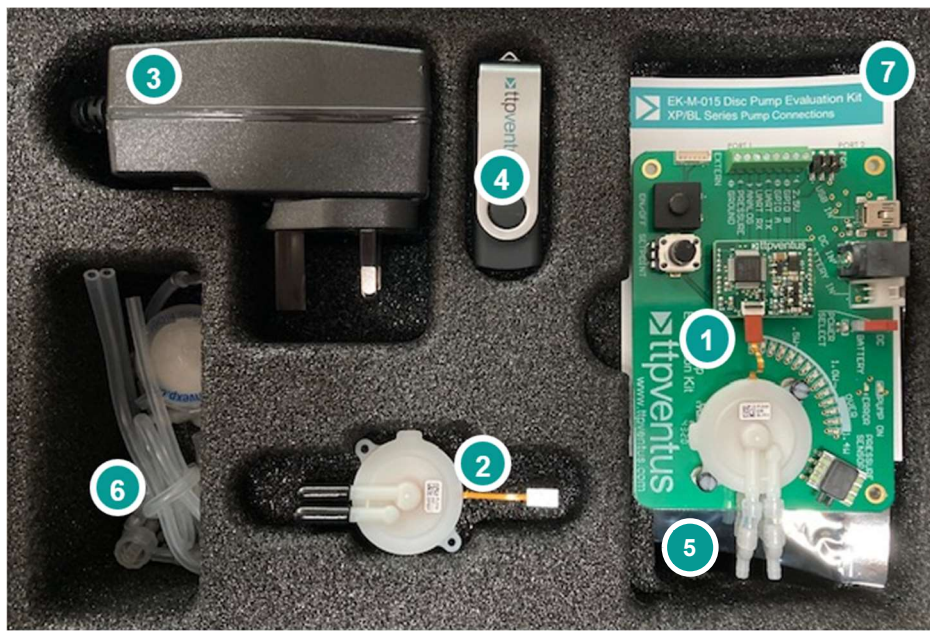

Figure 2: Disc Pump Evaluation Kit components
- Remove the motherboard PCB (Figure 2 - 1) from protective ESD bag.
- Power the board with the mains power supply (Figure 2 - 3).
- The USB flash drive (Figure 2 - 4) contains manuals, a video on system operation and PC software for configuration, control and data logging.
- Also included is a second pump (Figure 2 - 2), USB cable (Figure 2 - 5) and accessories kit of tubing, filters and connectors (Figure 2 - 6).
- Raise the black tab on the FPC connector (Figure 2 - 4) so that it is in the open position as per 4.
- Unscrew the pump mounting screws (Figure 2 - 2a/b).
- Fit the pump to the stand-offs (Figure 2 - 2a/b) with the screws and o-rings provided (ensure that one o-ring is above each mounting eye of the pump, and one below each mounting eye).